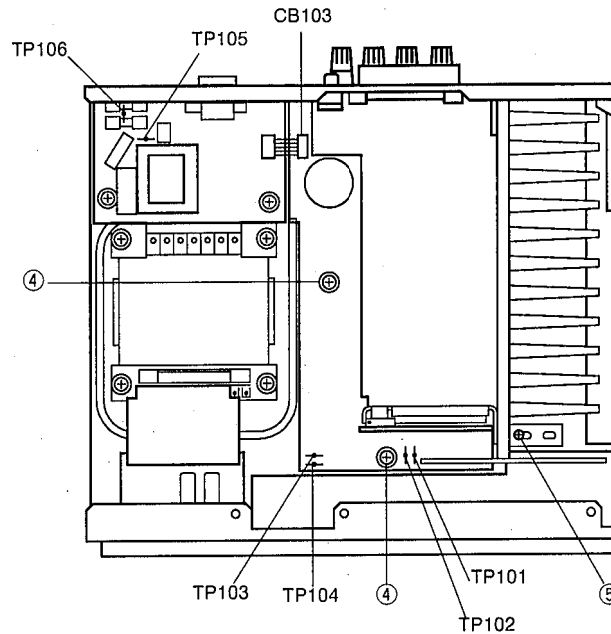

Fig. 2
- Remove 2 screws (④) and 1 screw (⑤) in Fig. 2.
- Detach 1 connector terminal (CB103) in Fig. 2.
- Operating checks can be taken by shorting between following test points in Fig. 2.